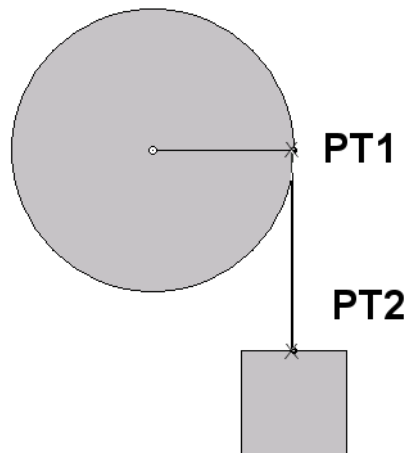

Figure 4
6. It is necessary to connect mass B to wheel A using a rope. Select the rope  button from the drawing tools menu and click on points PT1 and PT2 in Figure 4 to draw the rope. It is essential to exactly pick the PT1 and PT2, which are on the left-most periphery of the circle and the middle of the top-edge of the mass B.